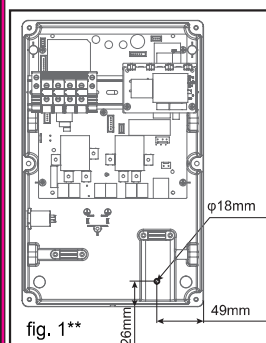

fig. 1**
Note: Reference fig.1 for steps 1 and 2.
1. Drill holes according to fig. 1*.
1. Drill holes according to fig. 1**.
Note: a8, a9 refer to fig. 1, reverse operation.